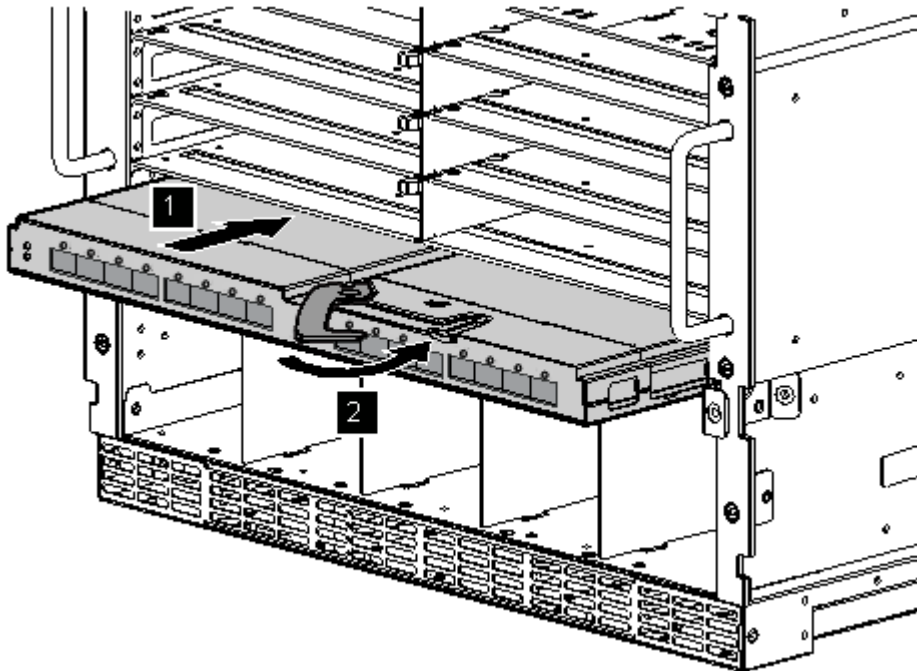

Figure 6 Installing an HP BLc Intel® 4X QDR InfiniBand Managed Switch into an HP BladeSystem Enclosure
1. Slide the HP BLc Intel® 4X QDR InfiniBand Managed Switch all the way into the HP BladeSystem enclosure (see callout 1 in Figure 6).
2. Push the blade handle in until it is in the locked position (see callout 2 in Figure 6). The blade handle is locked when you cannot pull it back out without pushing the blade handle release.